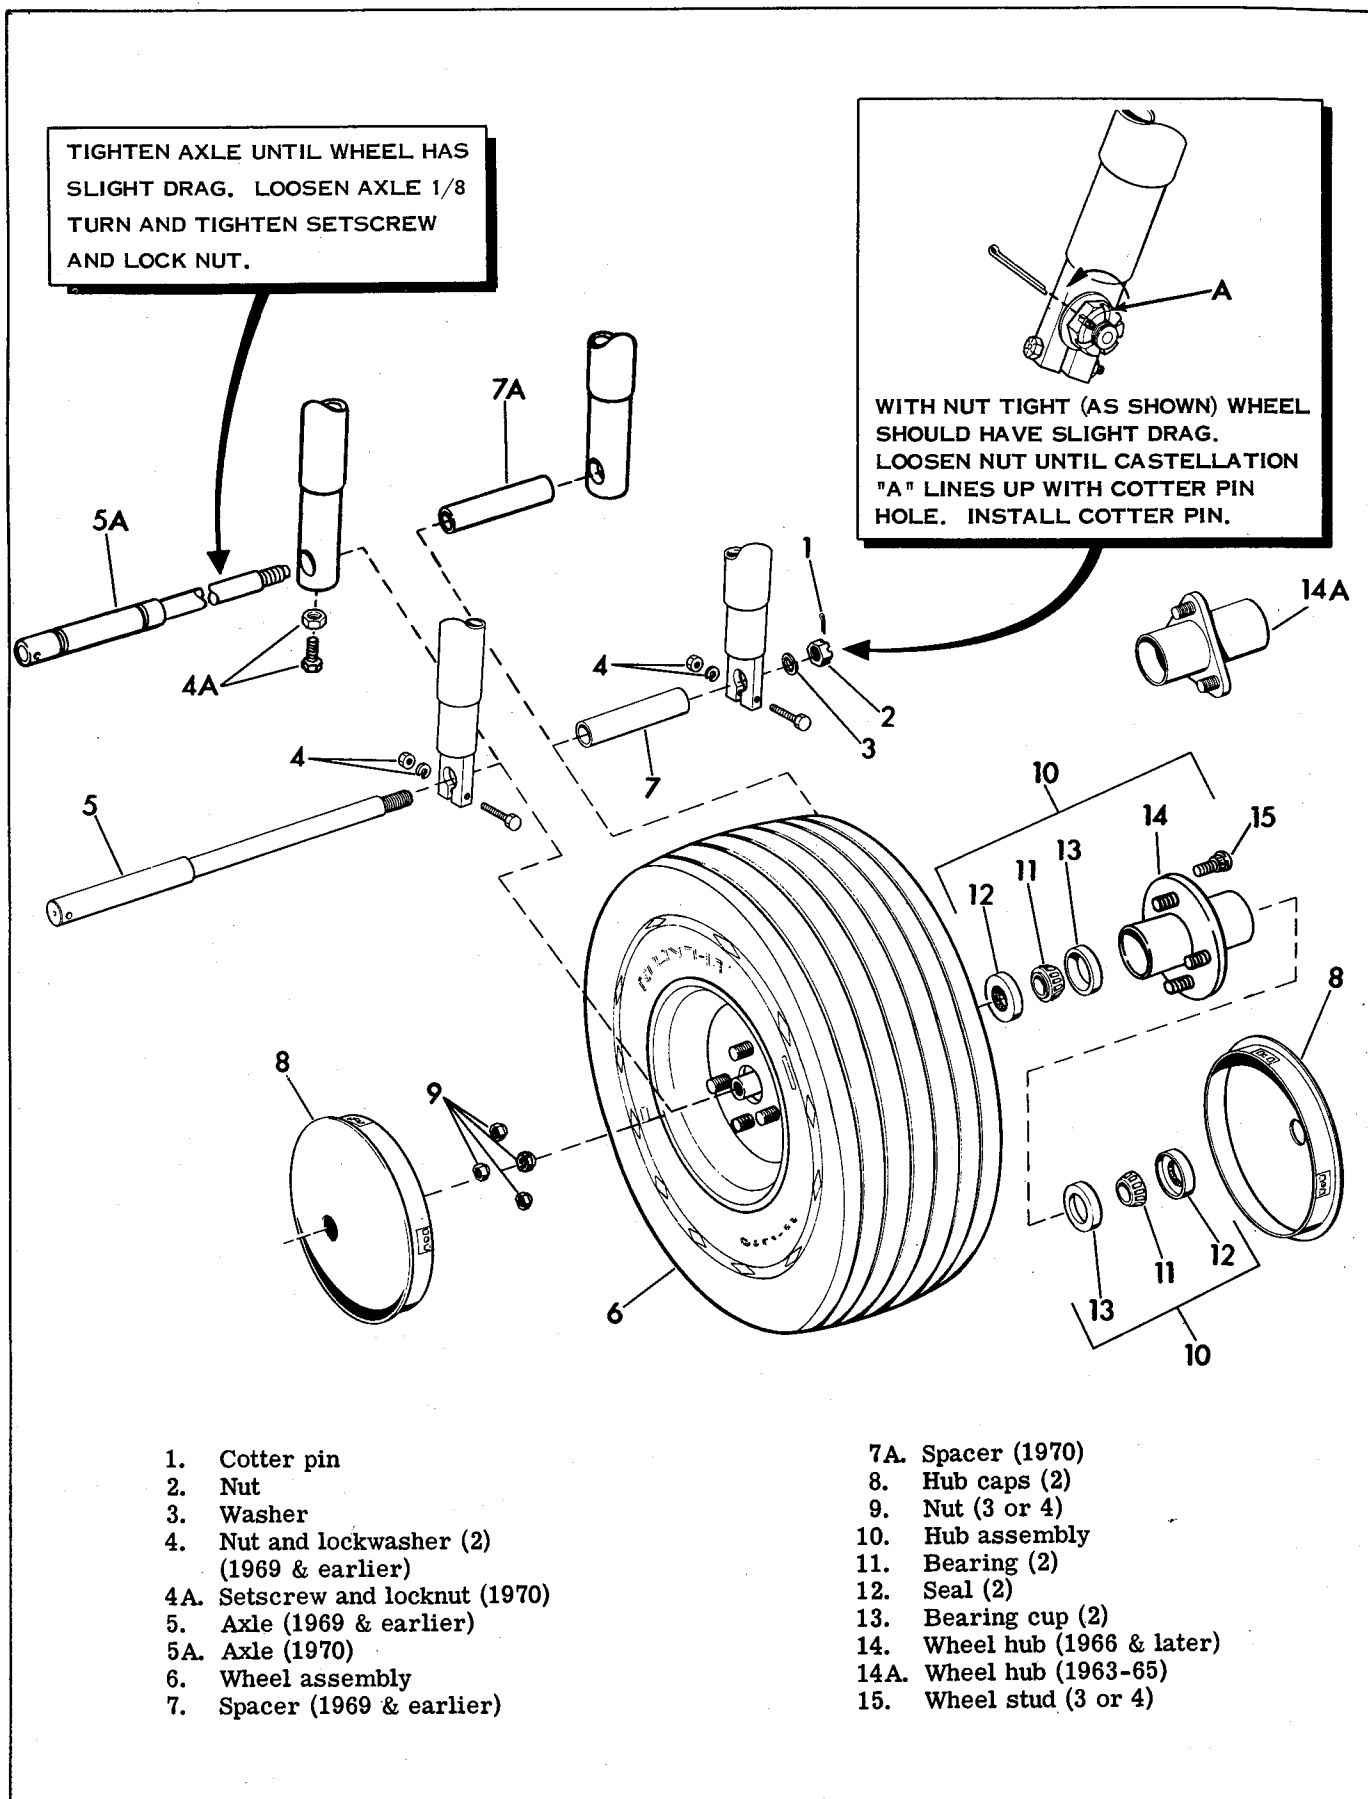

Figure 2-24. Front Wheel - 3 Wheel Car - Exploded View
3 WHEEL MODELS (See Figure 2-24)
in the axle. Install cotter pin (1) and tighten both axle clamp bolt nuts (4). See Figure 2-24.
Raise front wheels off the ground with a small jack or lift. Remove hub caps, wheel rim mounting nuts, and wheel, same as for 3 wheel car (See Figure 2-24.)